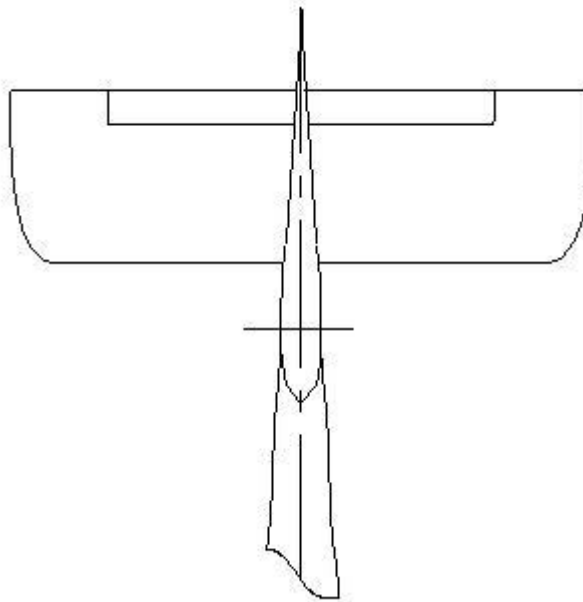

Fig. 7
- 4) Check neutral position of the rudder (the rudder axle must coincide with the plane axle, Fig. 7). Repeat item 3 if necessary.